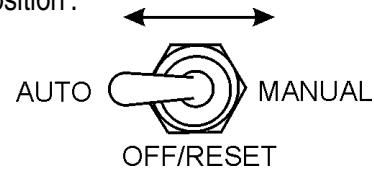

Figure 54. MPEC Control Switch (AUTO)
2. Place the **MPEC Control Switch** (Figure 54) in the **AUTO** position .